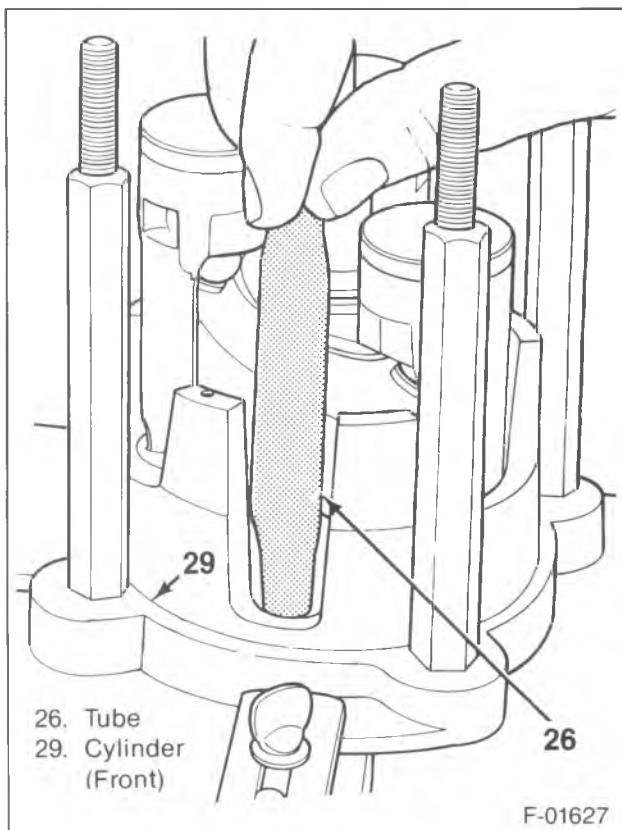

Figure 41—Installing the Discharge Crossover Tube
- 4. Discharge the cross-over tube (26) (figure 41).
- 5. Rear cylinder half (42) over the shaft (39).
- Rotate the shaft (39) to position the pistons in a stair-step arrangement.
- 6. Discharge cross-over tubes (26) into the rear half of the cylinder (29).
- 7. Rear cylinder half (42) over the locating dowel pins (45).